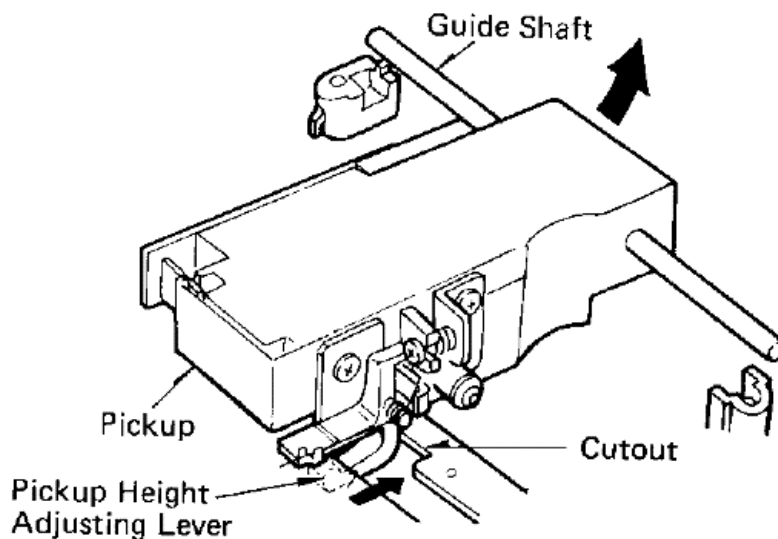

FIGURE 30-33 Pull the guide shaft to remove the laser pickup assembly.
- 5** Lift the guide shaft side of the pickup slightly and position the pickup height adjusting lever to the mechanism chassis cutout. Then, remove it by pulling it in the guide shaft side (Fig. 30-33).